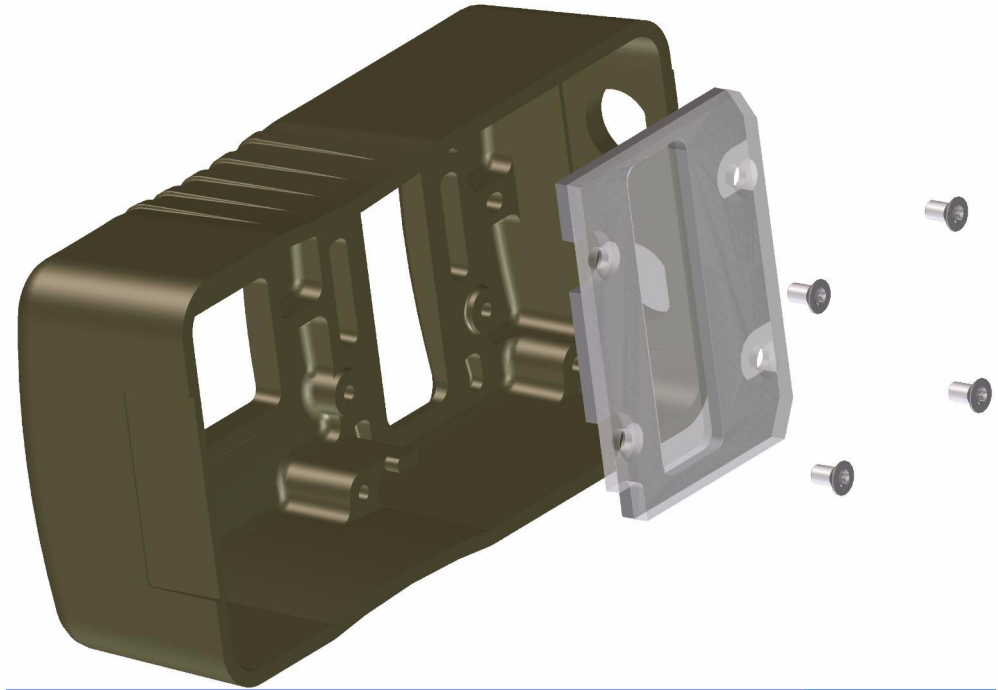

Figure 4 Lens with Gasket Removal
- 2 Install the Lens assembly inside the front cover enclosure as shown in Figure 4.